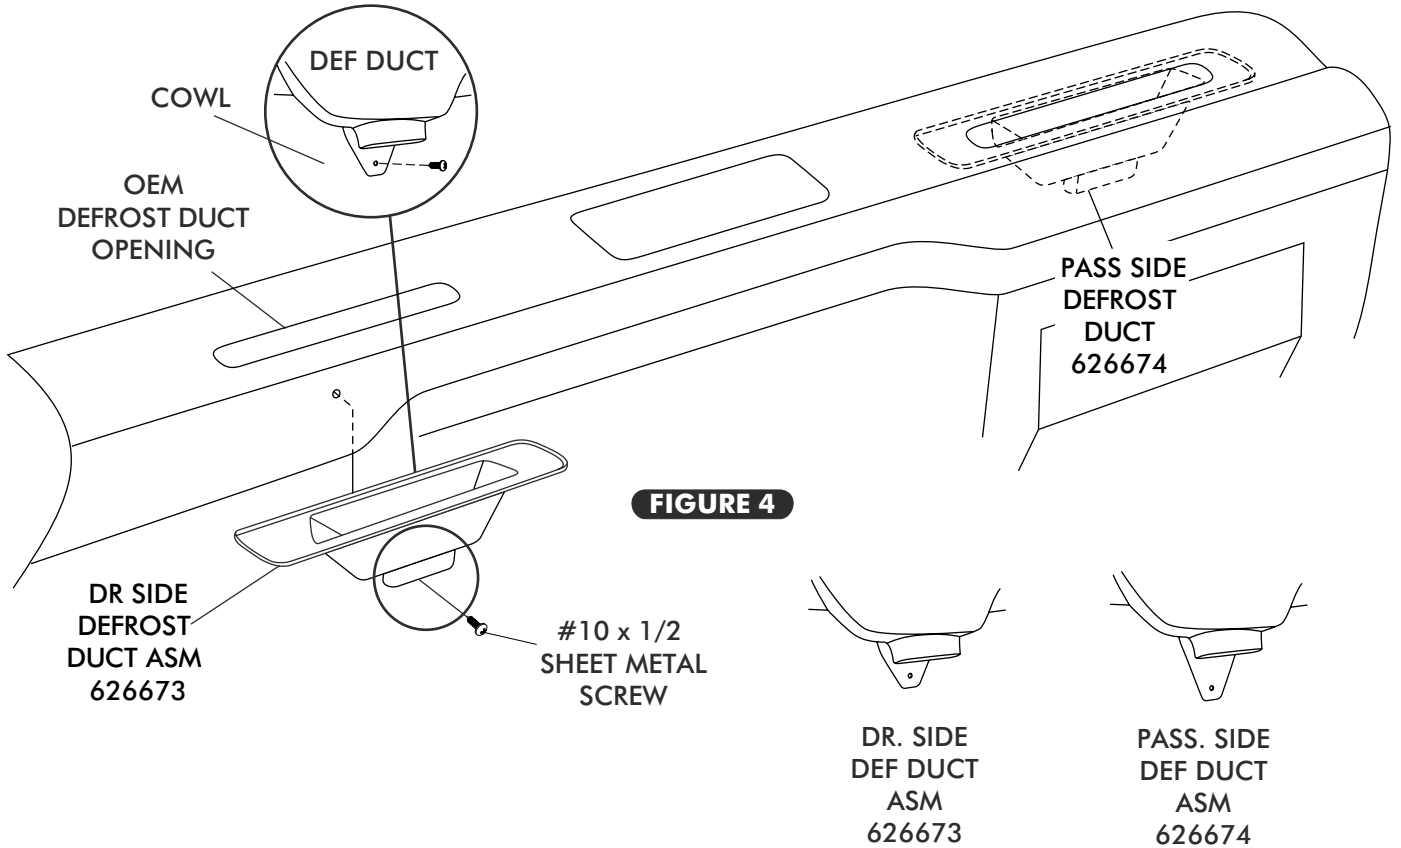

FIGURE 4
- INSTALL DEFROST DUCTS UNDER DASH AND ALIGN WITH OEM OPENING. SECURE USING #10 X 1/2" SHEETMETAL SCREWS AND ATTACH TO COWL. SEE FIGURE 4.